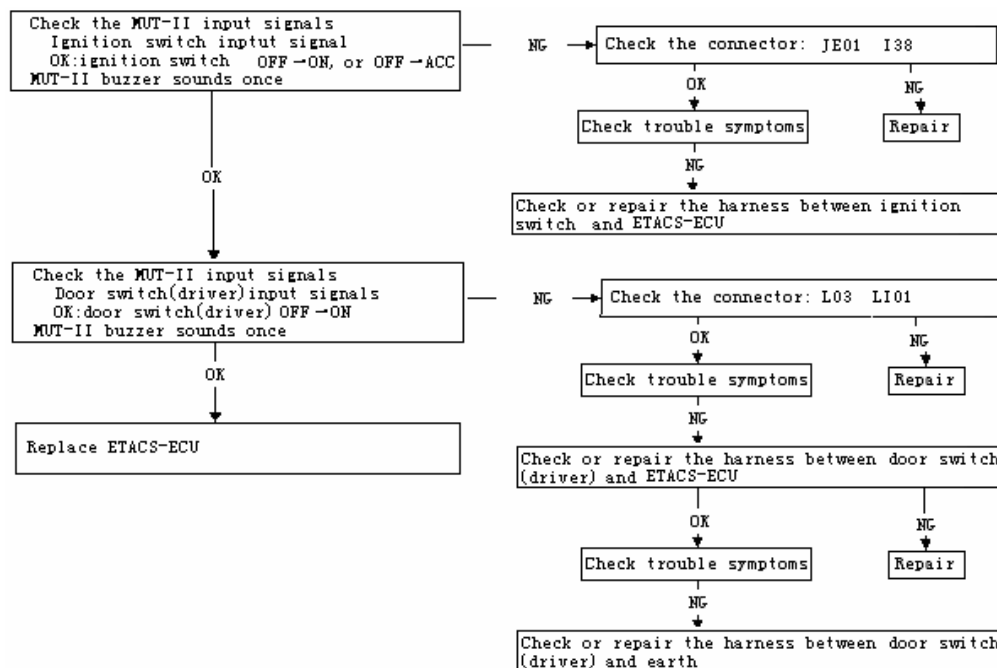

Fig 20-50
(2)Checking procedure No.2 as table20-12 and fig20-50.